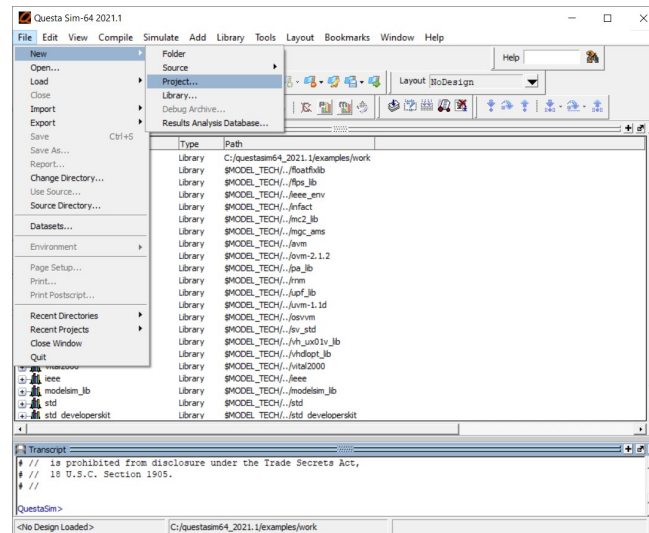

Fig. 3.2: Creating a new project.
1. Click on *File* then select *New* and then *Project*. (Fig. 3.2).